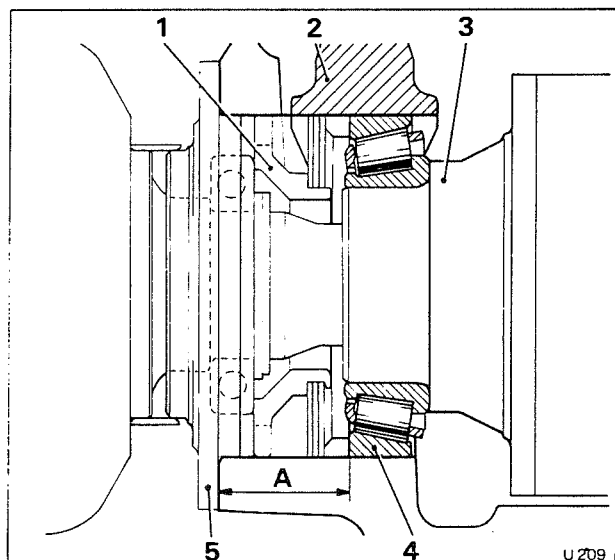

Fig. J10m Casing flange to bearing measurement
21. Accurately measure the distance from the casing flange to the taper roller bearing outer track (see Fig. J10m).